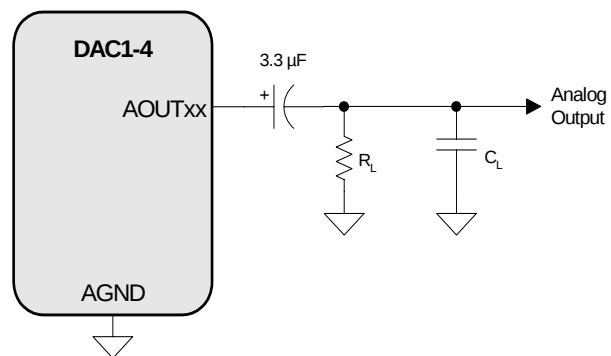

Figure 2. Output Test Circuit for Maximum Load
- Guaranteed by design. See Figure 2. R_L and C_L reflect the recommended minimum resistance and maximum capacitance required for the internal op-amp's stability and signal integrity. In this circuit topology, C_L will effectively move the dominant pole of the two-pole amp in the output stage. Increasing this value beyond the recommended 100 pF can cause the internal op-amp to become unstable. See “External Filters” on page 53 for a recommended output filter.